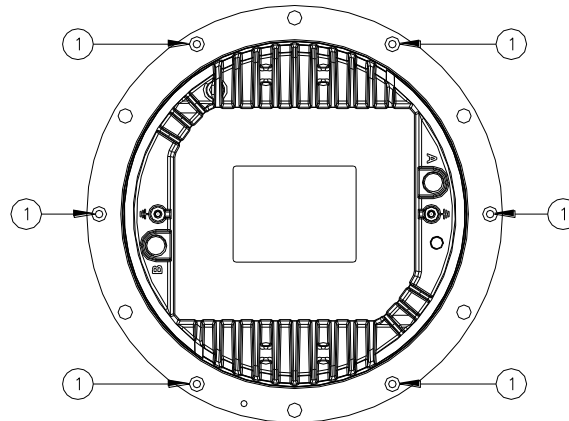
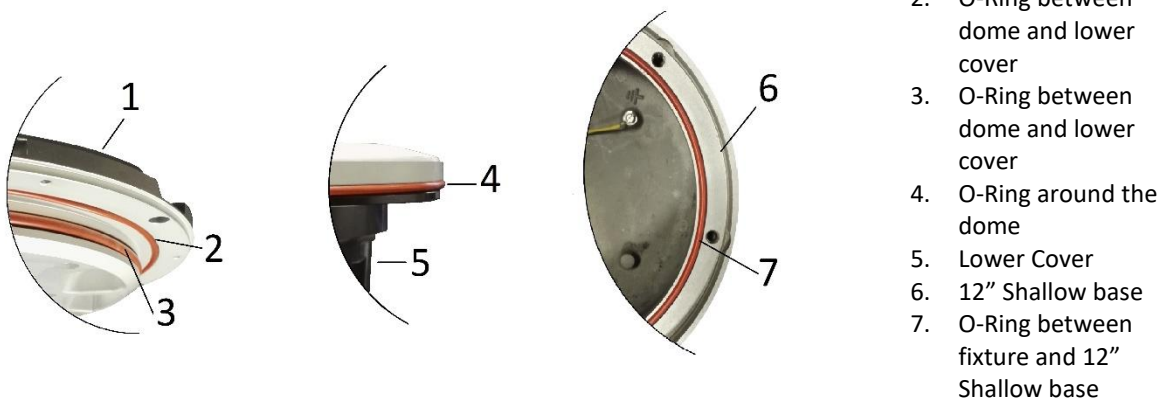

Figure 16 - Lower Cover Fixing Screws
Figure 18 – Fixture Gaskets
- Open the fixture by unscrewing the six locking screws TORX SFH M5x10 (Figure 16 - n°1).
- six locking screws TORX SFH M5x10 (Figure 16 - n°1);
- O-Rings between dome and lower cover (Figure 18 – n°2 and 3);
- Verify the correct position of the two O-Ring between dome and lower cover (Figure 18 – n°2 and 3); mount the lower cover on the dome and fasten it by means the six screws TORX SFH M5x10 (Figure 16 - n°1). One drop of anaerobic adhesive lower type (e.g. LOXEAL 24-18) should be applied to the screws before installation; tightening torque is 2.5 Nm.
- O-Ring around the dome (Figure 18 – n°4);
- O-Ring between fixture and shallow base (Figure 18 – n°7);